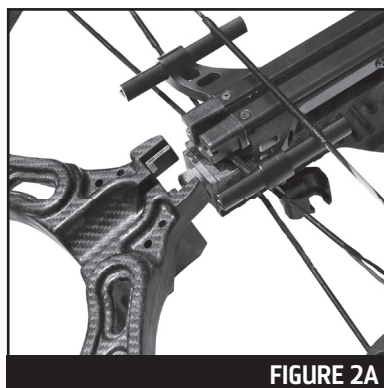

FIGURE 2A
2. Place cables under the front edge of the arrow/flight track into the cable slot; this should cause the string to rest on top of the arrow/flight track as shown in Figure 2A. The "string" connects from one cam to the opposite cam. The "cables" are connected to both the limbs and cams. The string should be in contact with the arrow/flight track.